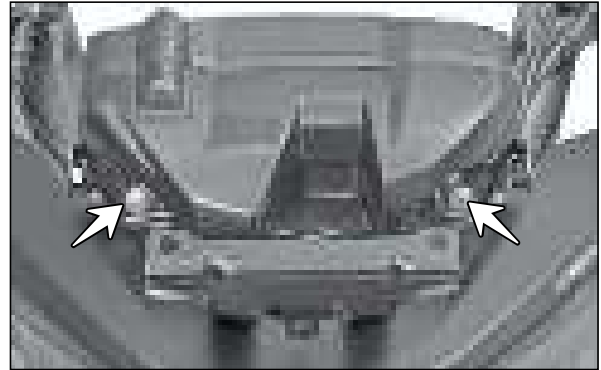

Fig. 5.81
- Remove the CRR pan head screw (M5x16 - 2 Nos.) from the mounting of housing speedometer rear and take out the housing speedometer. (Fig. 5.81)